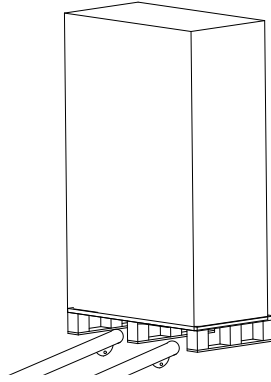

Figure 2-2 Transport to the designated site
2. Transport the equipment to the designated site by forklift, as shown in Figure2-2.